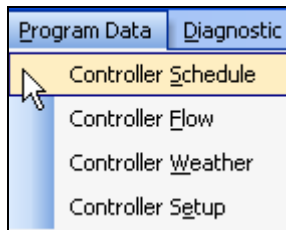

Figure 16.1.1A
1. In the toolbar at the top of the screen select **Program Data** and then scroll down to the words **Controller Schedule** and click on it (Figure 16.1.1A).